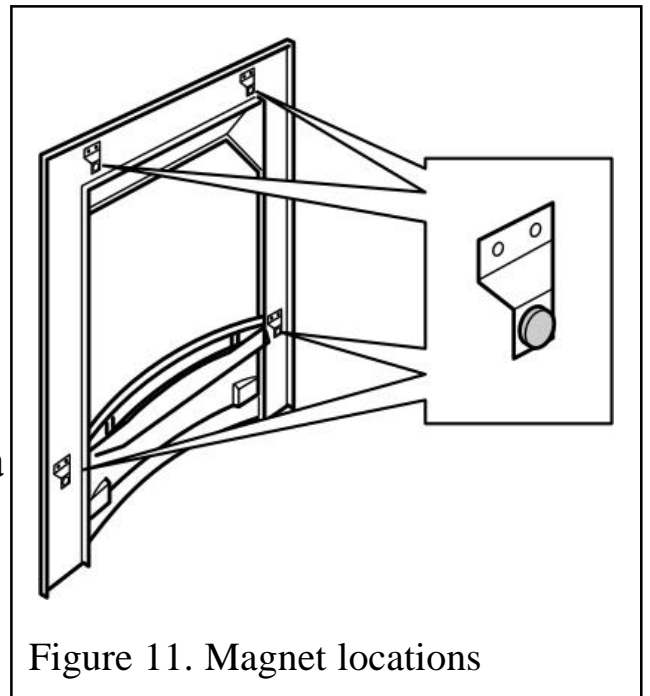

Figure 11. Magnet locations
1. Removing the fascia may have moved the magnets used to fix the fascia to the heater. There should be a magnet on each of the four raised tabs on the rear of the fascia (See figure 11).